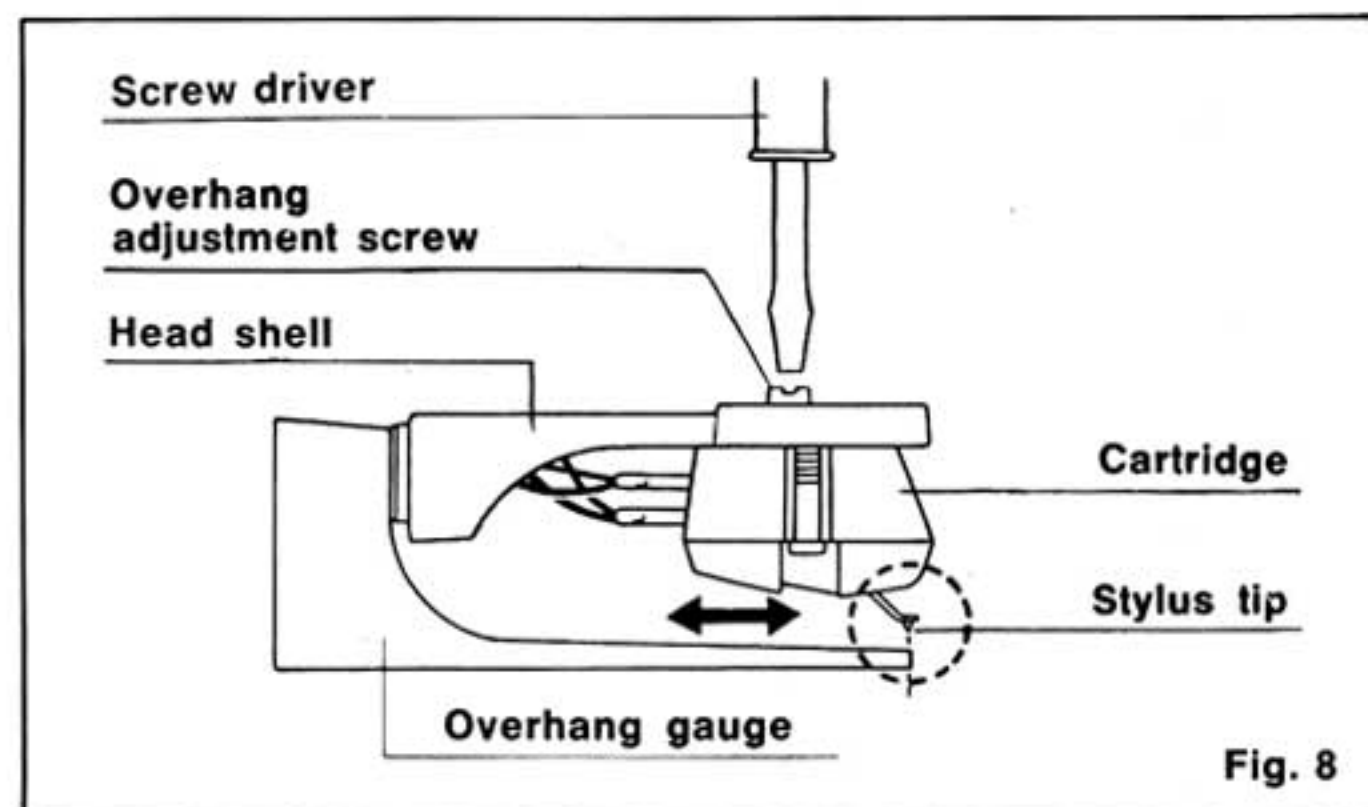

Fig. 8
*Loosen overhang adjustment screw and move the cartridge forward or backward until the stylus tip lines up with the edge of the gauge. (See Fig. 8)